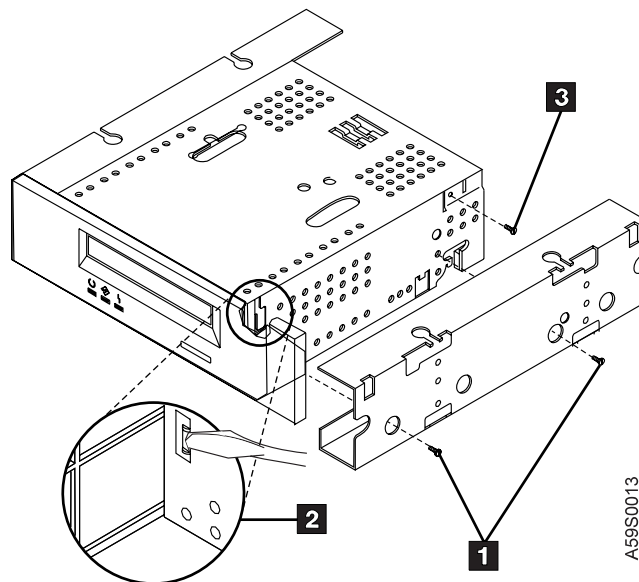

Figure 17. Removing the Mounting Rails from the Drive
2. Remove the mounting rails by removing the four screws ( **1** in Figure 17) near the lower edge of the drive (two on each side). Access the screws through holes in the side of each rail.